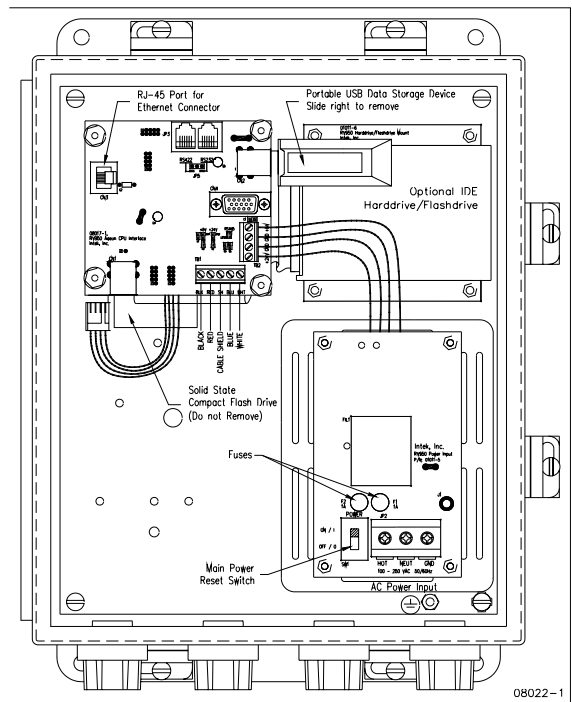

Figure 5 Electrical Connections and Set-up
A. Main Processor Unit (see Figure 5)
1. Sensor Power and Communication Line: Connect the distribution box to this main processor box using the RS-485 communications/power cable. Follow indicated connector color code. [*communications*: white (A), blue (B) and shield (SH); *power*: 24Vdc, red (+), and black (-)]
- A. Locate portable USB Data Storage Device in the main electronics enclosure (Figure 5).